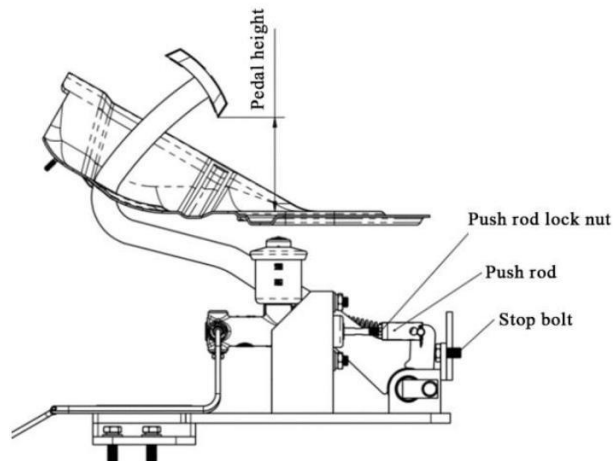

Fig. 2-8 Brake Pedal Adjustment
- (1) Shorten the push rod on the brake master cylinder;
- (2) Adjust the stop bolt, as shown in Fig. 2-8, and adjust the pedal height to about